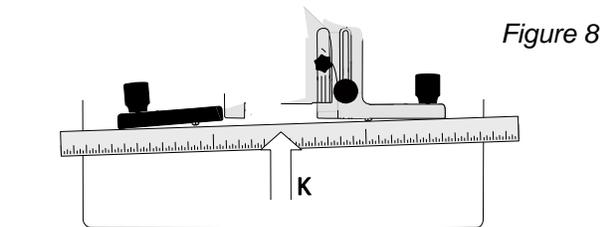
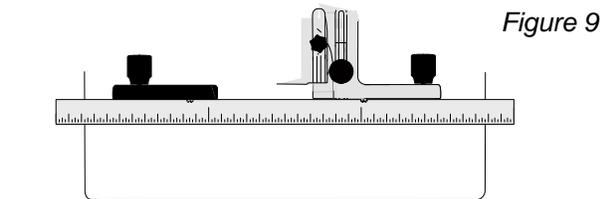
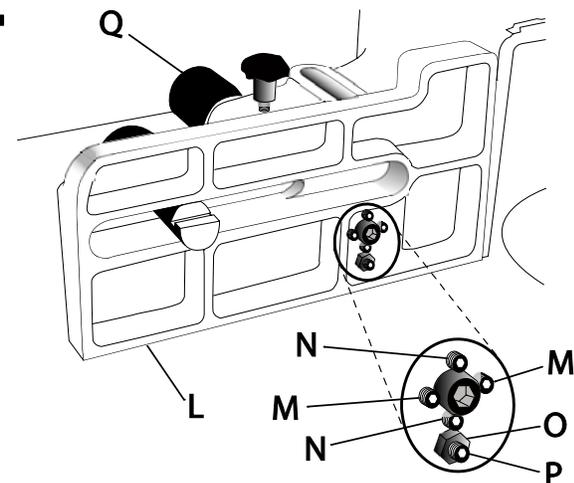

Figure 8
Figure 9
Figure 10
6. Remove both fences (J₁, J₂) and place the straightedge against the infeed and outfeed fence castings (Figure 8).
7. Maintain steady pressure of the straightedge against the fence castings (K, Fig. 8). At the same time, attempt to bring both fences into alignment as shown in Figure 9. This is accomplished by alternately making incremental adjustments to two *setscrews* (M, Fig. 10) on the front face of the *casting* (L, Fig. 10) with a 3mm hex wrench, followed by repositioning the casting with the *ram adjust dial* (Q, Fig. 10) as required.
Important: It is recommended that the adjustment setscrews (M, Fig. 10) be rotated
8. Place a square against the *casting* (L, Fig. 10) and table.
9. If adjustment is required, adjust *setscrews* N (Fig. 10).
Alignment is complete when both fence castings are coplanar (in-line) as shown in Figure 9 and the outfeed fence is perpendicular to the table.
5. Using a 10mm wrench, loosen the *lock nut* (O, Fig. 10) that secures the *zero stop set-screw* (P, Fig. 10) on the *casting* (L, Fig. 10).
6. Loosen or tighten the *setscrew* (P, Fig. 10), as required, to bring fence castings into alignment as shown in M.
7. Tighten *lock nut* (O, Fig. 10).